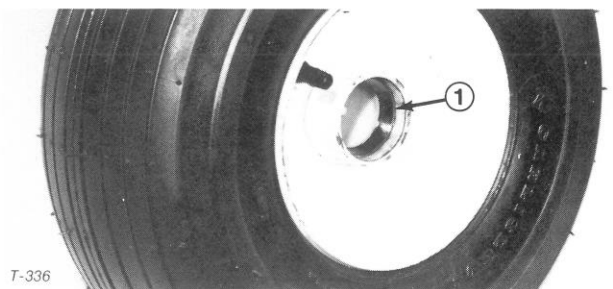

Figure 40
4. Check the bearing cups (Fig. 40) for wear, pitting or other noticeable damage. Replace defective parts. If bearing cups were removed from the wheel hub, press them into the hub until they seat against the shoulder.